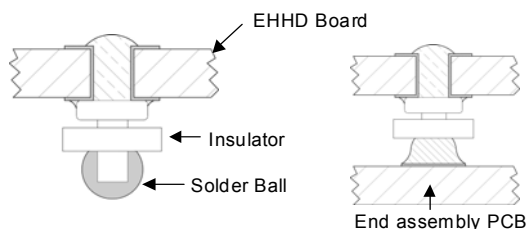

Figure 22. Column Pin Connector Before and After Reflow Soldering .
The surface mountable modules in the EHHD family use our newest SMT technology called "Column Pin" (CP) connectors. Figure 22 shows the new CP connector before and after reflow soldering onto the end-board assembly. The CP is constructed from a solid copper pin with an integral solder ball attached, which is composed of tin/lead (Sn/Pb) solder for non-Z codes, or Sn/Ag₃/Cu (SAC) solder for -Z codes.